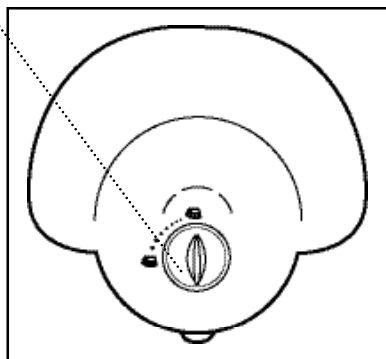

Figure 1
- J. Brew Strength Control Dial (Figure 1)